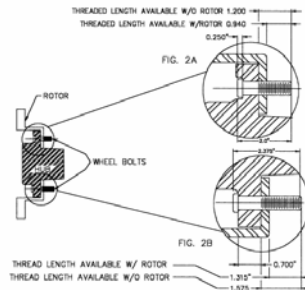

Fig. 2
2. Confirm that the wheel bolts are long enough to fully engage the wheel nut after the rotor is installed. See Fig. 2 below.